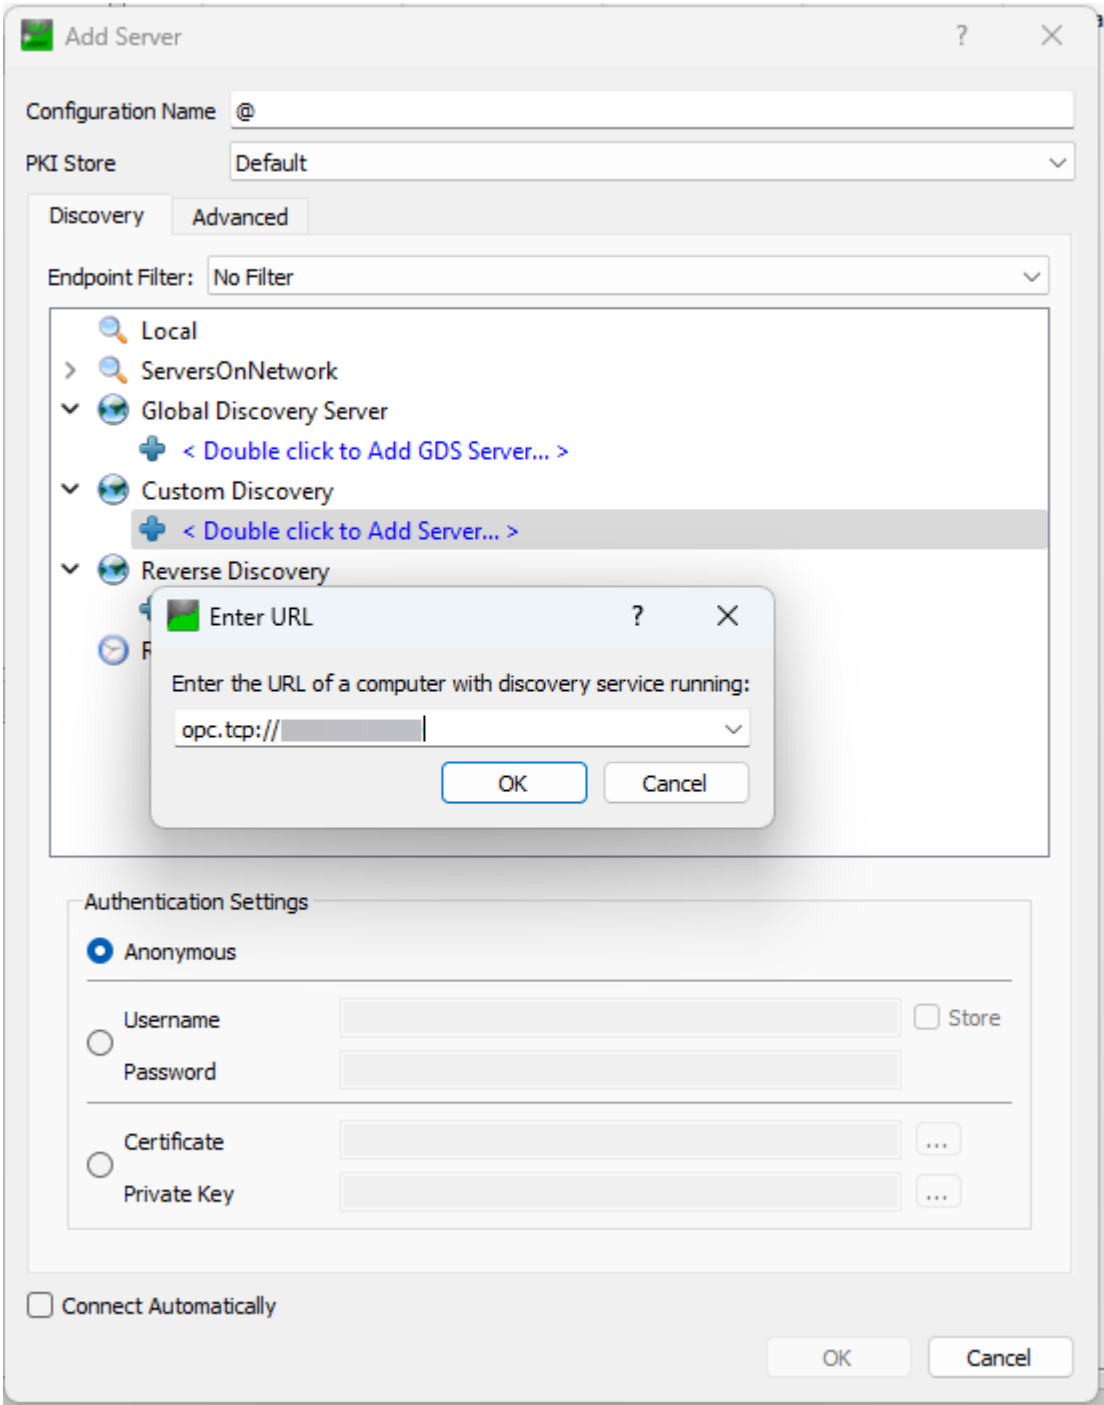

Figure 3-6: Enter URL dialog box
5. Enter the URL as `opc.tcp://(PCMM2G_IP_Address)` to add the OPC UA Server. (Figure 3-6)